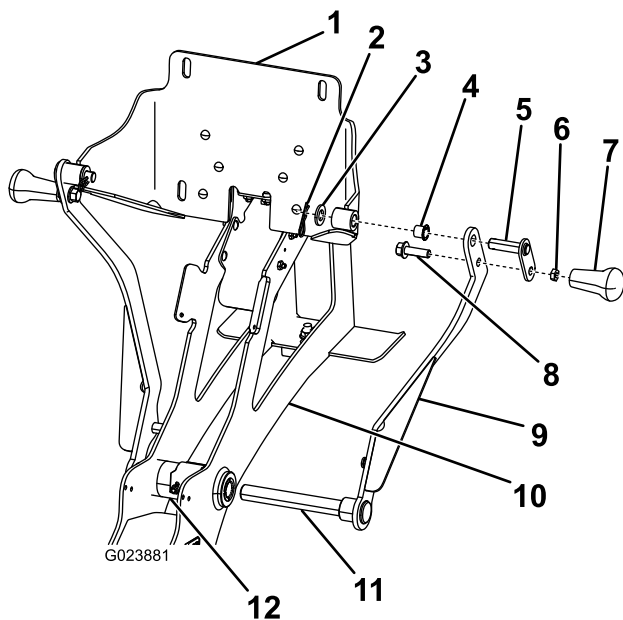

Figure 5
8. Insert the axle of the right cradle arm through the hinge shaft (Figure 5).
13. Secure the handle to the back plate assembly using a flat washer and hair pin as shown in Figure 5.